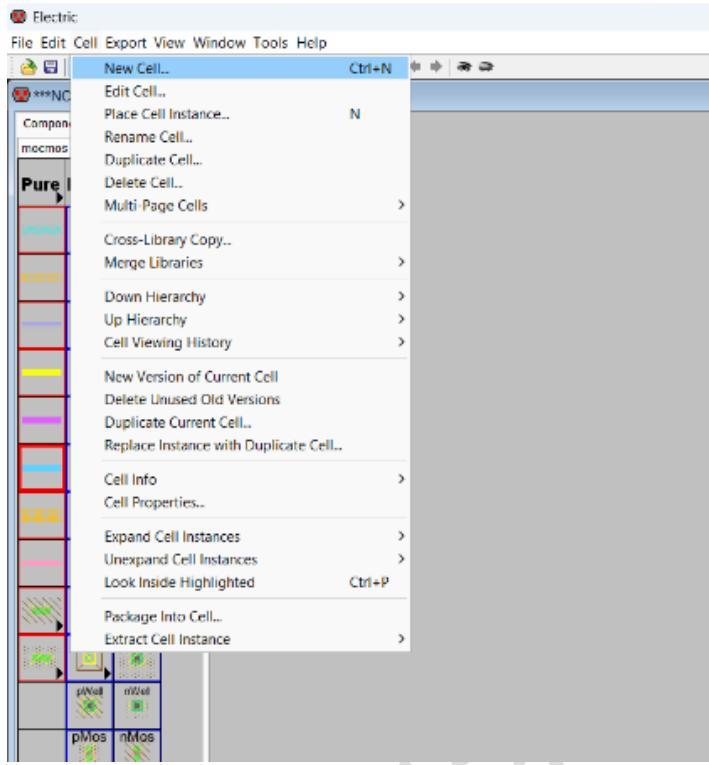

Figure 1.7: Creating a new cell.
5. Create a new schematic cell by clicking on Cell > New Cell (see Figure 1.7).